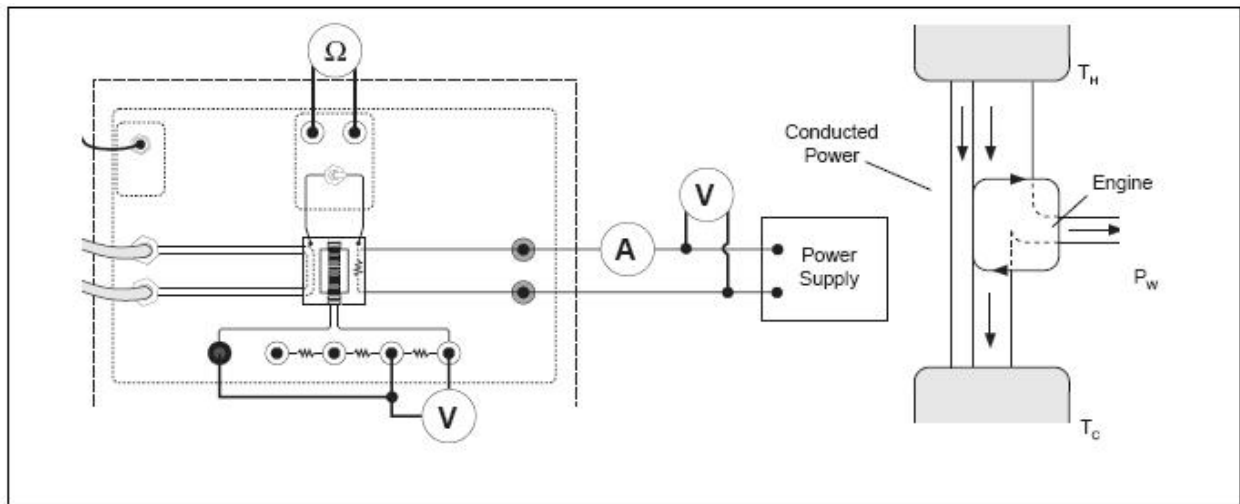
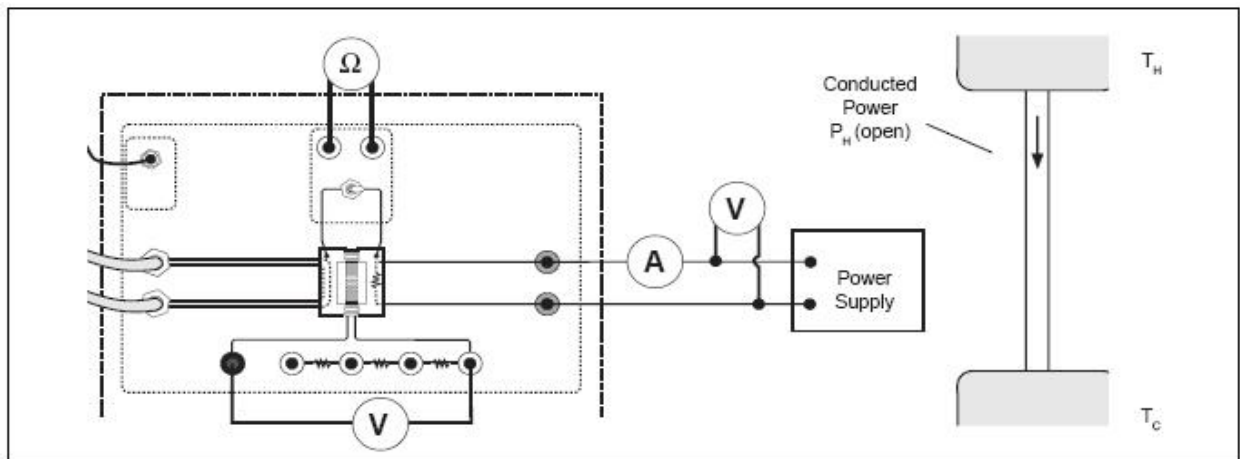

Figure 21.6: *Heat Engine with a Load*
Figure 21.7: *No Load*
First run the Thermal Efficiency Apparatus with a load resistor (R) as in figure 21.6. The electrical equivalent of this setup is shown in figure 5. Kirchoff's Loop Rule gives
Next, run the Thermal Efficiency Apparatus with no load, as in Figure 21.7. Since there is no current flowing through the internal resistance of the Peltier Device, the voltage drop across the internal resistance is zero and the voltage measured will just be V_s .
The Thermal Efficiency Apparatus is run with a load connected to measure P_H (Figure 21.6) and then the load is disconnected and the power input into the hot reservoir is adjusted to maintain the temperatures (less power is needed when there is no load since less heat is being drawn from the hot reservoir). See Figure 21.7. $P_{H(\text{open})}$ is the power input to the hot reservoir when no load is present. Since, while there is no load, the hot reservoir is maintained at an equilibrium temperature, the heat put into the hot reservoir by the heating resistor must equal the heat radiated and conducted away from the hot reservoir. So measuring the heat input when there is no load determines the heat loss due to radiation and conduction. It is assumed this loss is the same when there is a load and the heat engine is operating.
indirectly. Notice that when the heat pump is operating, the temperature of the hot reservoir remains constant. Therefore, the hot reservoir must be in equilibrium and the heat delivered to it must equal the heat being conducted and radiated away. So a measurement of the heat conducted and radiated away at a given temperature difference will also be a measurement of the heat delivered to the hot reservoir. The heat conducted and radiated is measured by running the device with no load and measuring the heat input needed to maintain the temperature of the hot side (Figure 21.7).
(2) Open
- A. Disconnect the patch cord from the load resistor so no current is flowing through the load and thus no work is being done. Now all the power delivered to the heating resistor is either conducted to the cold side or radiated away. Leave the voltmeter attached so that the Seebeck voltage (V_S) can be measured. (see figure 21.7).